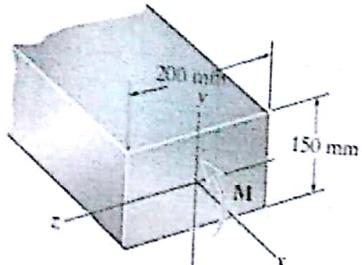

Fig. 4
4. A member having the dimensions shown is used to resist an internal bending moment of  $M = 90 \text{ kNm}$ . Determine the maximum stress in the member if the moment is applied (a) about the z-axis (Fig. 4); (b) about the y-axis. Sketch the stress distribution for each case.